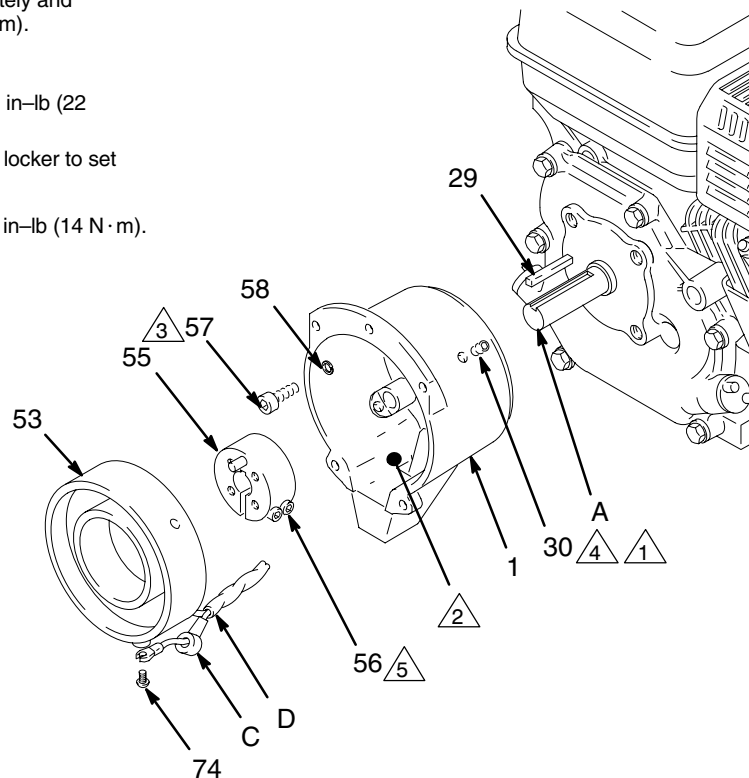

Fig. 23
1. Install the **clutch housing (1)**, capscrews (57) and lockwashers (58) on the engine. Use special alignment tool to position clutch housing on engine. Torque screws (57) to 200 in-lb (22 N·m).
2. Install the engine shaft **key (29)**. See Fig. 23.
4. Connect the wires of the harness (D) with the screws (74) in both places on the field (wires can be attached to either connection). Pull the plastic caps (C) up and snap them over the screws. Install the field in the clutch housing. Push the wire harness through the slot in the clutch housing. Align the setscrew holes in the field and the clutch housing (1). Hand tighten the setscrews (30) oppositely and evenly. See Fig. 23.
- 4 Apply low strength thread locker to set screws (30).